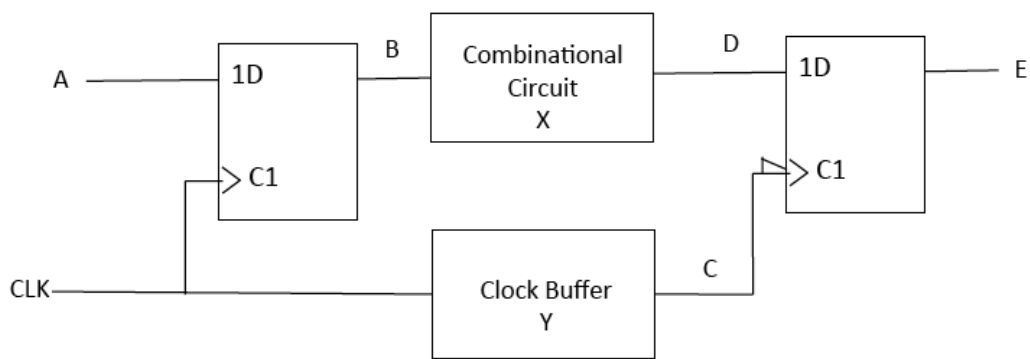

Figure 1.5
- (e) In the circuit of *Figure 1.5*, the propagation delay of the flip-flops is $t_p = 2\text{ ns}$, and the setup and hold time are $t_s = 2\text{ ns}$ and $t_h = 1\text{ ns}$ respectively. The propagation delay of the combinational circuit X is in the range of $1\text{ ns} < t_X < 3\text{ ns}$. The propagation delay of the non-inverting clock buffer circuit Y is in the range of $0\text{ ns} < t_Y < 2\text{ ns}$. The clock signal *CLK* is symmetrical with period T.